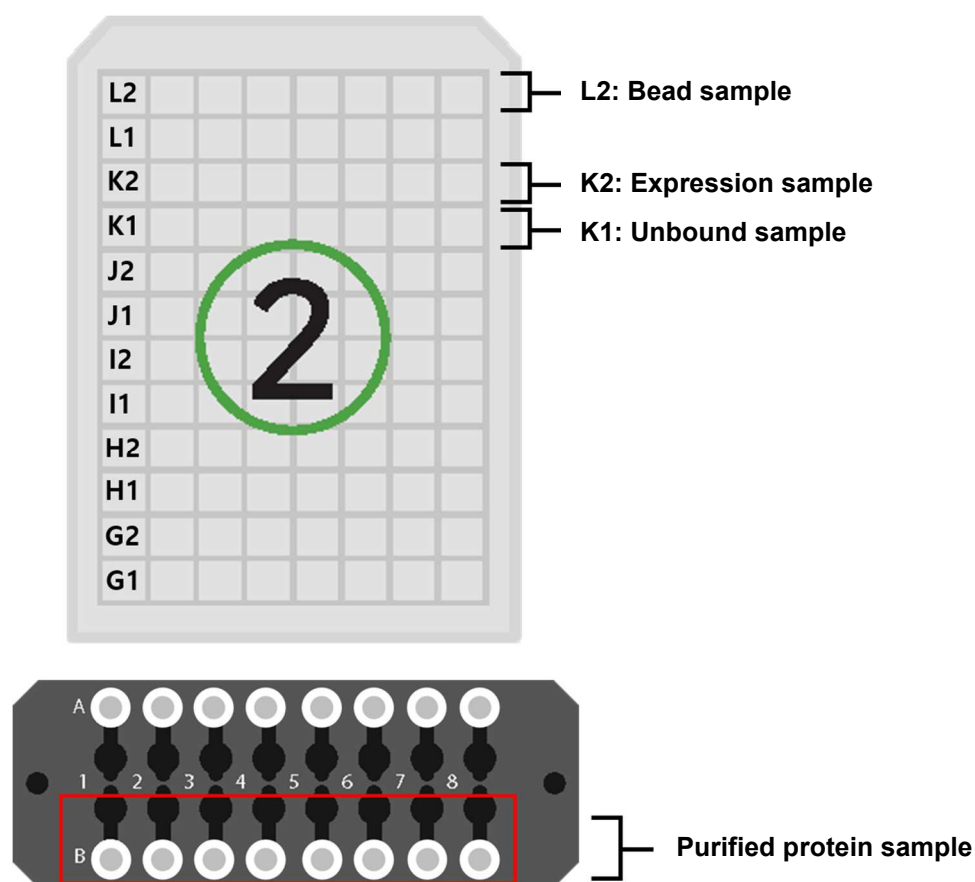

Figure 6. Samples for each row of Cartridge ②.
After protein synthesis with *ExiProgen*™, the final target proteins of about 180-190 µl is collected from Dialysis tube located at the **row B** of the Reaction block (Figure 6). Final protein samples may contain Ni-NTA magnetic beads, but this can be removed by centrifugation before use.
If necessary, reaction samples from protein expression and purification can be recovered from the rows K1, K2, and L2 of Cartridges ② as shown in Figure 6.